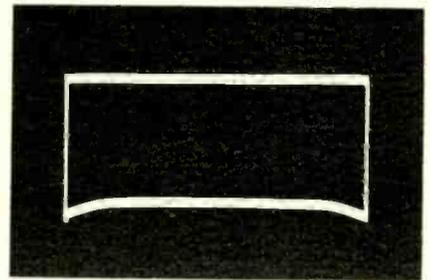

Fig. 5--A normal scope pattern with no phase shift and sufficient low frequency response.
3. Adjust the scope vertical gain until a usable pattern is achieved. If the scope has no phase shift and normal low frequency response, the pattern should appear as shown in Fig. 5.